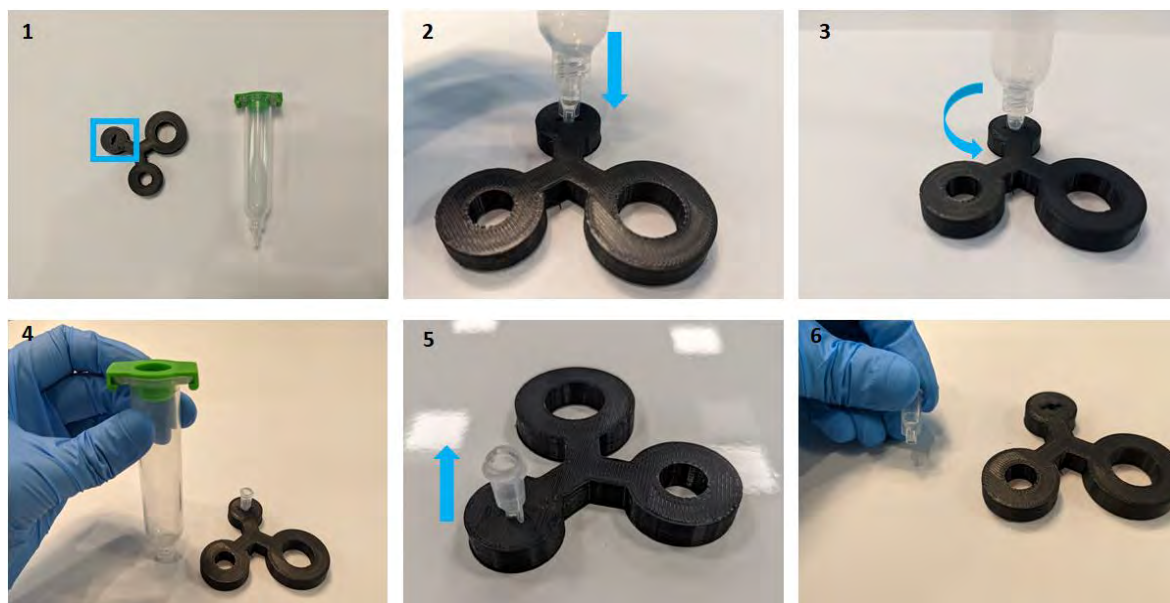

Figure 5.27: Unscrew the cartridge fluid cap by turning anti-clockwise prior to installing on the cartridge.
- To remove the bottom lid from the cartridge fluid syringe the customer can use the CF cap opener which can be found in the accessories kit. Figure 5.27 shows the step-by-step instructions to undo the bottom lid of the cartridge fluid syringe using the CF cap opener.